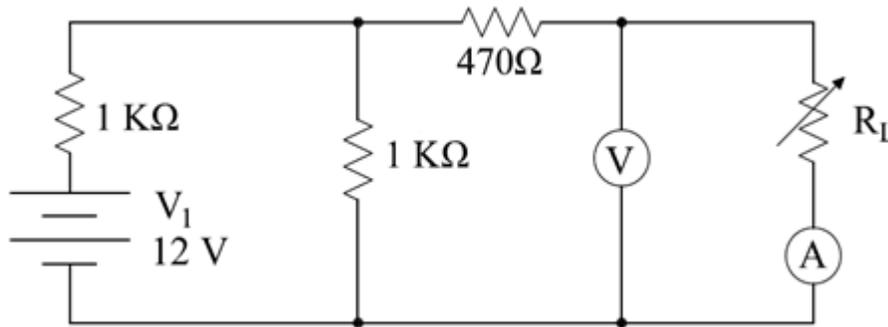

Fig.3
1. Connect the circuit as shown in Fig.3